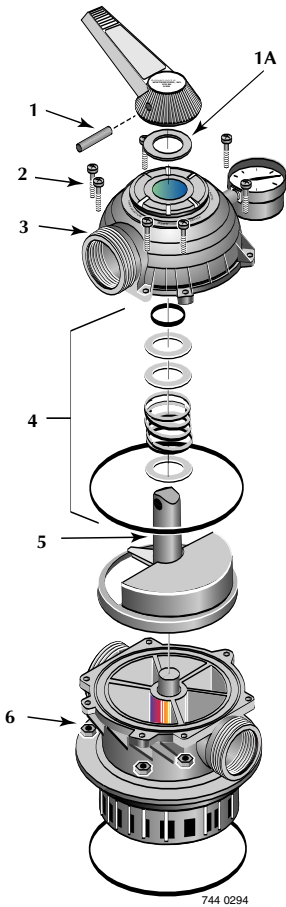

Fig. 12A: Valve Disassembly
3. Remove pin (Key 1, Figures 12A and 12B) to disconnect handle. If it cannot be removed by hand, use a hammer and center punch and lightly tap it out.
- A. Remove all screws and nuts (Key Nos. 2 and 6, Figures 12A and 12B).